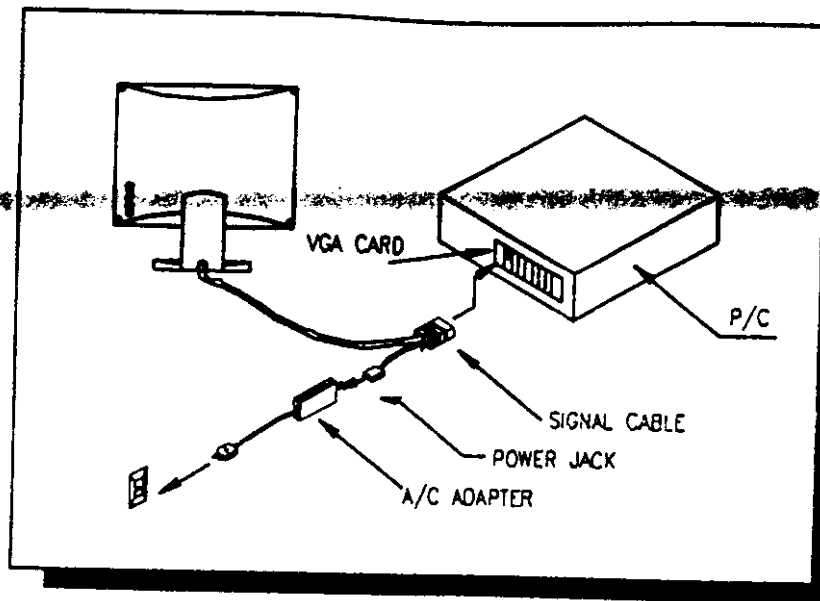

FIG. 1
4. Connect the power cord on the AC outlet; see the Fig.1.